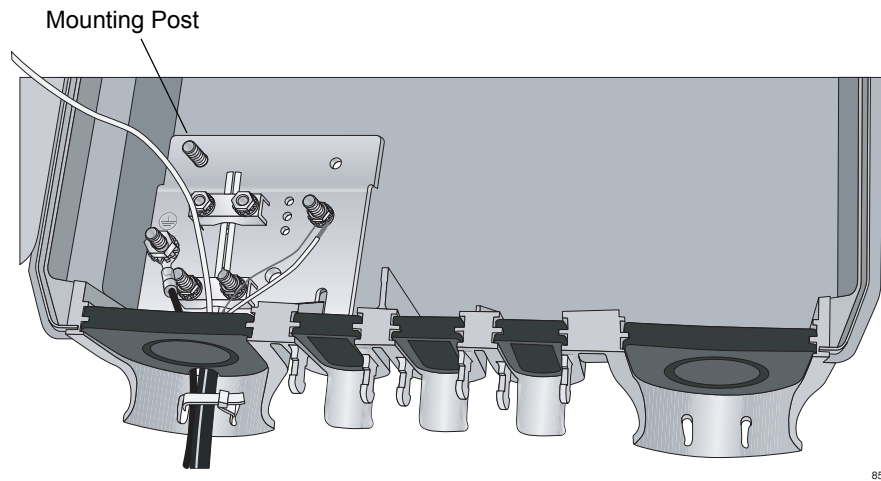

Figure 30. Location of the Mounting Post
3. Open the outer and inner doors of the enclosure and locate the gateway mounting post, as shown in Figure 30.